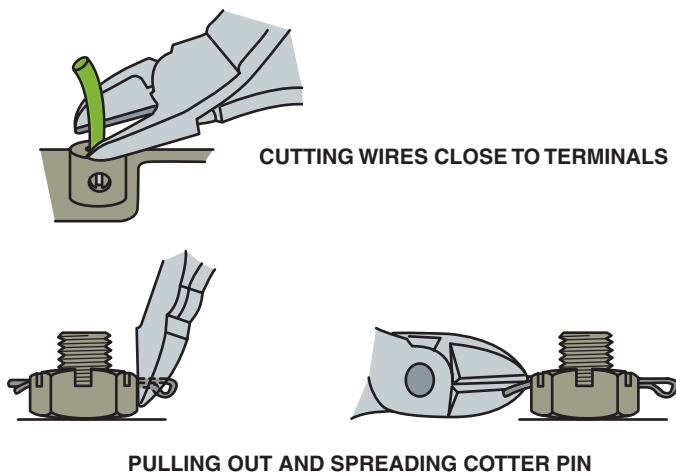

FIGURE 1-39 The diagonal-cut pliers is another common tool that has many names.
- **Diagonal pliers.** *Diagonal pliers* are designed to cut only. The cutting jaws are set at an angle to make it easier to cut wires. Diagonal pliers are also called *side cuts* or *dikes*. These pliers are constructed of hardened steel and they are used mostly for cutting wire. ● **SEE FIGURE 1-39.**